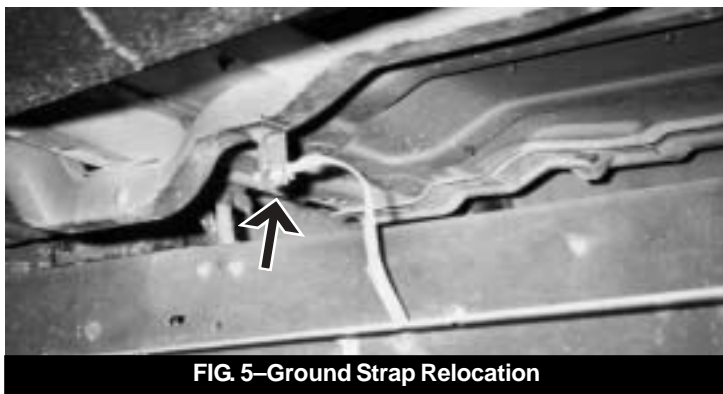

FIG. 5—Ground Strap Relocation
17. Attach the ground straps to relocation brackets using 1/4" x 1" bolts, 1/4" SAE washers, and nuts (Fig. 5).